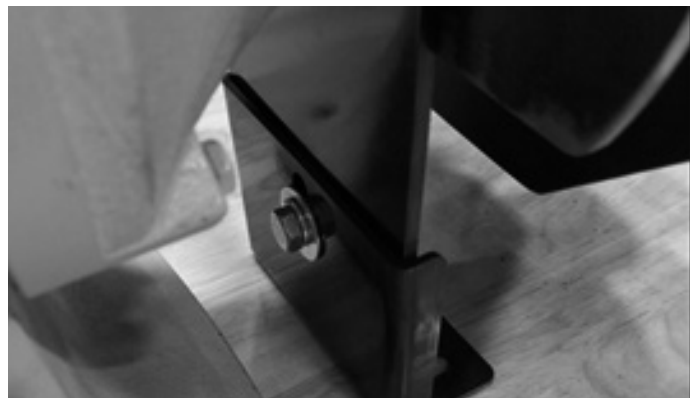

Figure 3. Support bracket, beneath left-side guard.
1. Assemble the support bracket, using the provided plates, matching 3/8" screw and 3/8" washer and 3/8" spring washer on the motor side of the plate (shown in Figure 3).
NOTE: Ensure that the foot of the plate faces away from the motor, as shown in Figure 3.